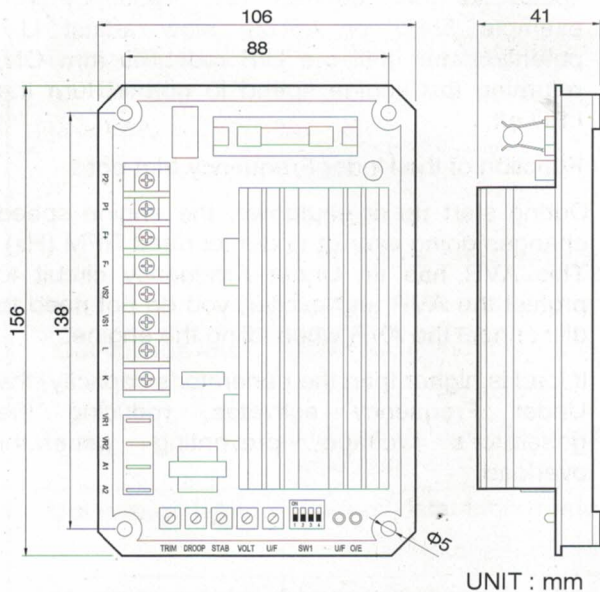

Figure 1 Outline Drawing
1. For enclosure dimension and mounting hole diameter please reference from Figure 1. The protection fuse capacity is 16A / 250V slow blow type.